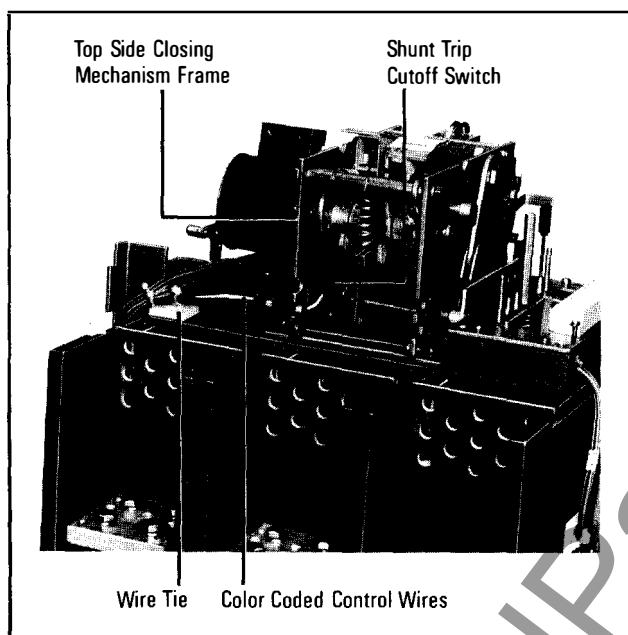
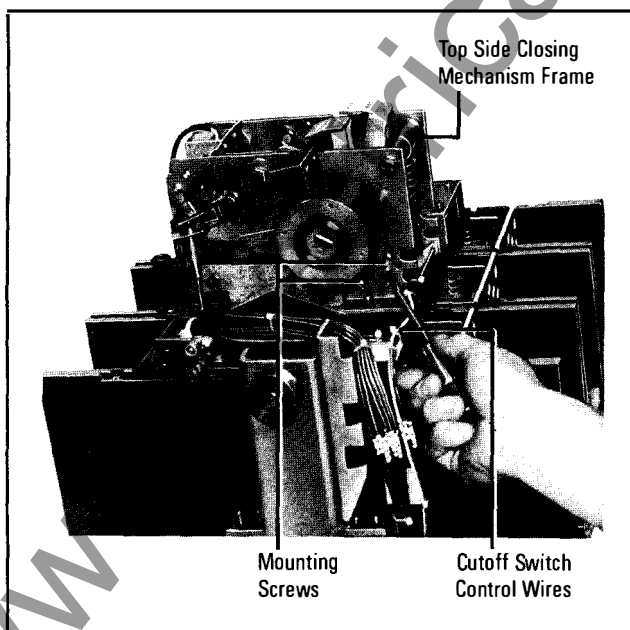

Fig. 7 *Shunt Trip Cutoff Switch Installed*
Fig. 8 *Mounting Screw Location for Shunt Trip Cutoff Switch*
5. Install the shunt trip cut-off switch as illustrated in Fig. 7, using two pan head screws (0.164-32 x 0.312) and lockwashers. Mounting screw locations are illustrated in Fig. 8. Note, for DC shunt trip devices, two series connected cut-off switches are provided, the installation is identical.